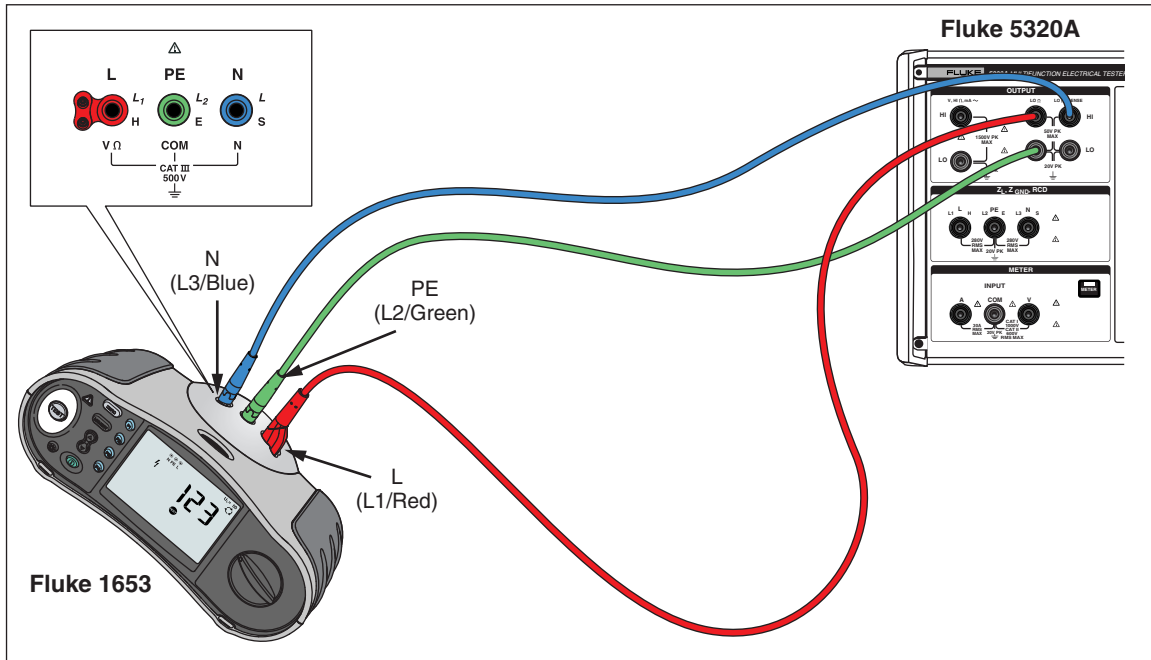

Figure 7-2. Earth Resistance Calibration Connections
2. Using Figure 7-2 for a reference, connect the UUT to the Calibrator's **LOΩ HI** and **LO** terminals as well as the **LOΩ Sense HI** terminal.